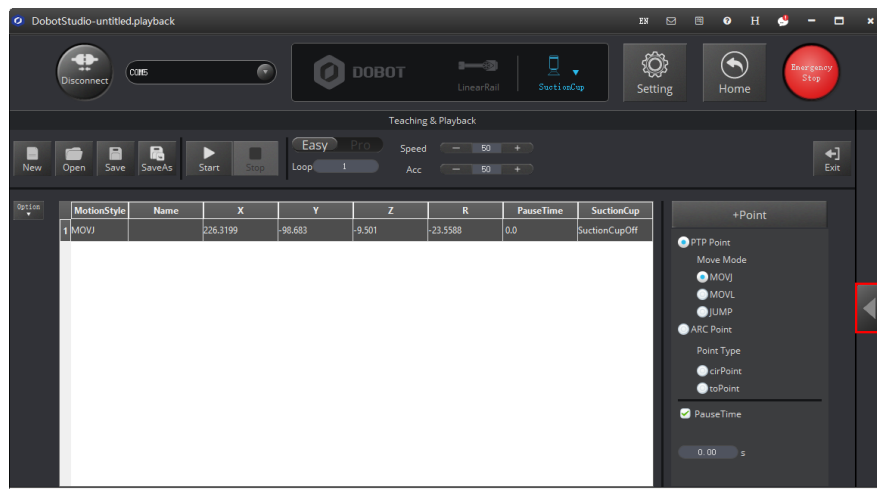

Figure 5.21 Display the Operation Panel
2. Click  to display the **Operation Panel**, as shown in Figure 5.21.